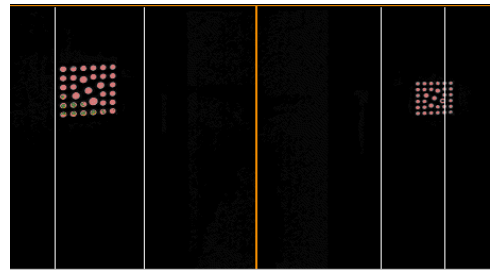

Figure 3-81
15. A screen with two (4) vertical bars appear with two targets that appear much smaller than the last screen. (Figure 3-81) This is because the targets were moved further away from the cameras.